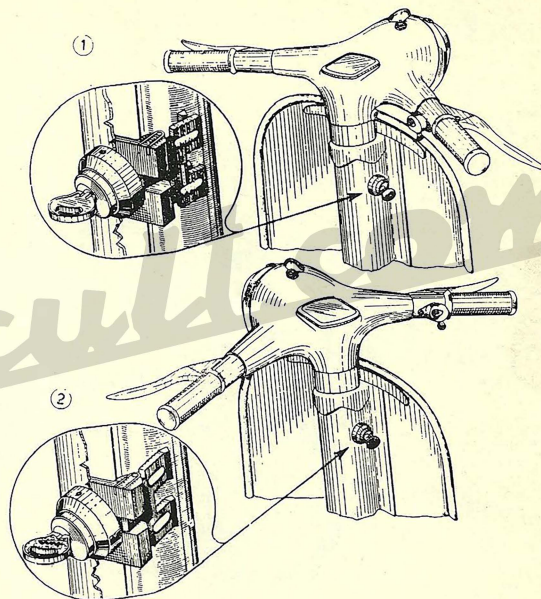

Fig. 11 - Security lock
**Steering lock.** A suitable security lock is arranged on the frame, near the handle-bars. Turning the key anticlockwise and the handlebars to the left, the lock engages the lugs welded on the steering column, so that the machine can only turn around. Turn the key clockwise for releasing the steering system (see Fig. 11).
**Speedometer.** The speedometer has its housing in the middle of the handlebars (see Fig. 11).